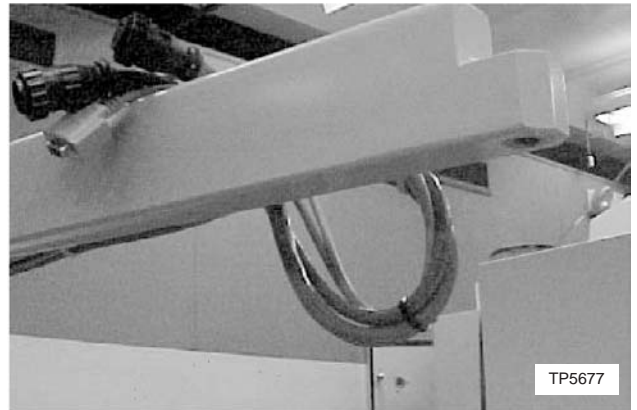

Figure 2.12 - Swivel Arm with Cable Connections
3. Set one of the large washers over the hole on the swivel arm (see Figure 2.12), then place the pendant onto the arm so that the mounting bracket is over the washer and the hole (see Figure 2.13). Slide the small washer onto the bolt, followed by the other large washer, then insert the bolt through the mounting bracket and the swivel arm.